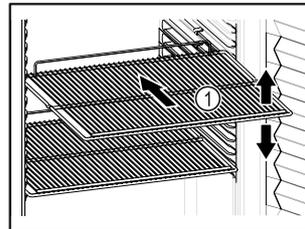

Fig. 58 Example illustration
- If there are adjustable shelves Fig. 58 (1), position them as required.